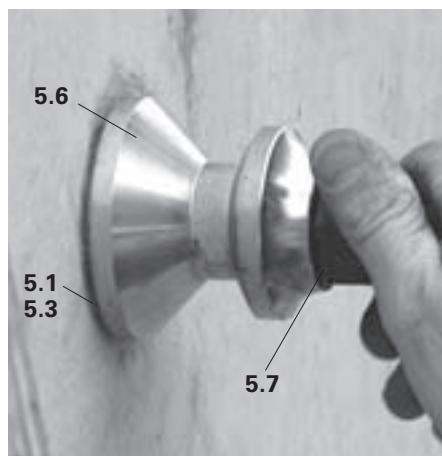

Fig. B1.17
2. Place the Scaffold Mounting Ring M24 (5.6) on the cone cup of the screw-on or climbing cone (5.1/5.3) and secure using bolt M24 x 120 ISO 4014-10.9 (5.7). (Fig. B1.17)